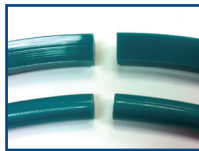

Fig. 2
7. Using cutting shears provided, cut each end square. See Fig. 2.